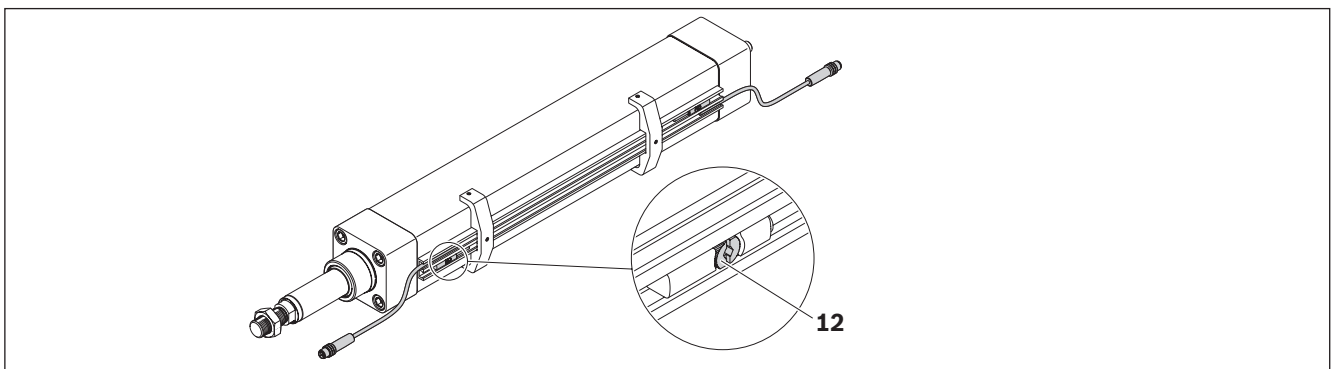

Fig. 28: Mounting the switches
1. Insert the switches (magnetic field sensors) in the T-slot of the sensor profile **(1)** in such a way that the clamping screws **(12)** point outwards ➔ Fig. 28.
- Fix by rotating the clamping screw **(12)** ➡ Fig. 28 on page 27 Secure. Tighten the screw by hand and check the switch is secure.